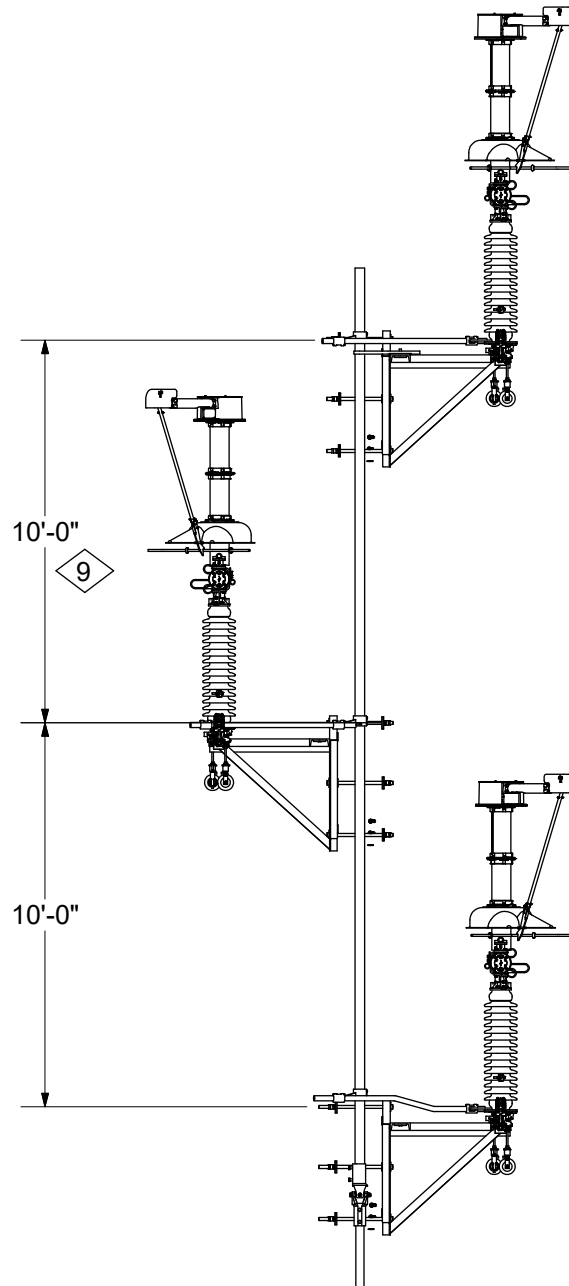

Figure 1
9. For 8'-0" spacing, the interrupter (if equipped) must be horizontally mounted to the insulator, as shown in the standards; otherwise the spacing shall be 10'-0" for vertically mounted interrupters, as shown in Figure 1. All new load break switches come with horizontally mounted interrupters. The vertically mounted interrupter can be replaced with horizontally mounted interrupters.